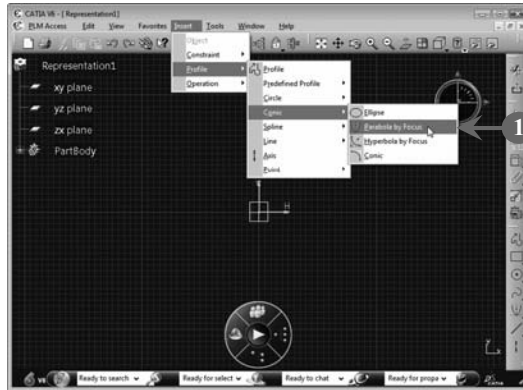

FIGURE 2.44
A parabola is also formed by a section of a conic (**Figure 2.44**). Parabola by focus is drawn by first locating its focus and then locating its vertex to finalize its orientation. Perform the following steps to draw a conic in the Sketcher workbench:
1. Select **Insert>Profile>Conic>Parabola by Focus**, as shown in Figure 2.44: